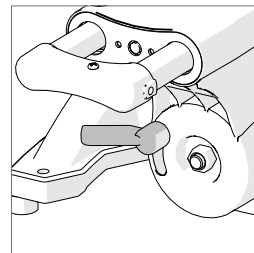

Fig. 4
- Slacken the Bevel Locking Handle. **(Fig. 4)**
WARNING: Read steps associated with **Figs 4, 5, 6 and 7 before proceeding.**